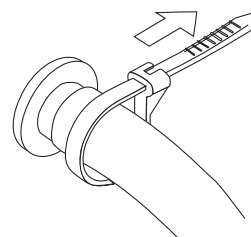

Fig. 5-5
④-1 Insert an end of tube onto the nozzle so that the tube is tightly put on the nozzle.
④-2 To fasten the tube with the tube band, insert the tip of the tube band into the slot (See Fig. 5-5).